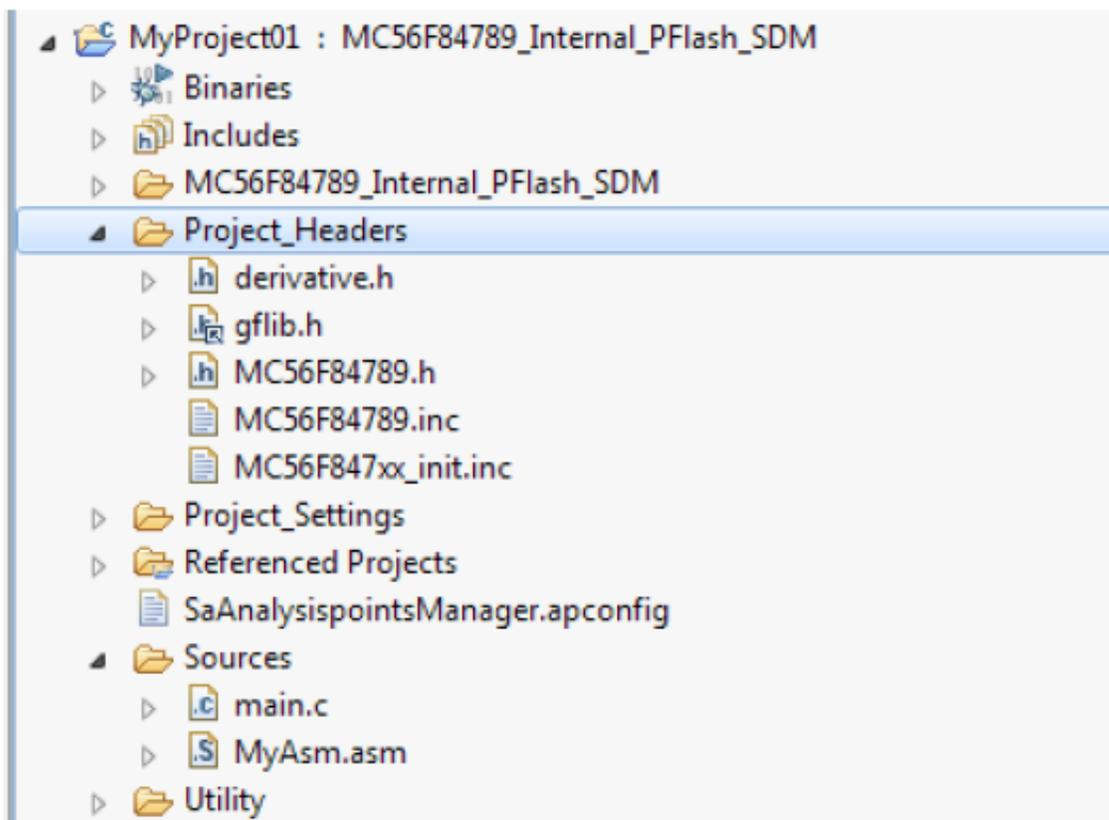

Figure 11. Link header file
12. Finally, it is necessary to add a reference of the library header file. In the project folder (left-hand part), right-click the Project_Headers folder, choose 'Add files...' and select the file C:\Freescale\56800E_FSESL_r2.01\56800E_GFLIB_r2.0\include\gflib.h. See Figure 11.